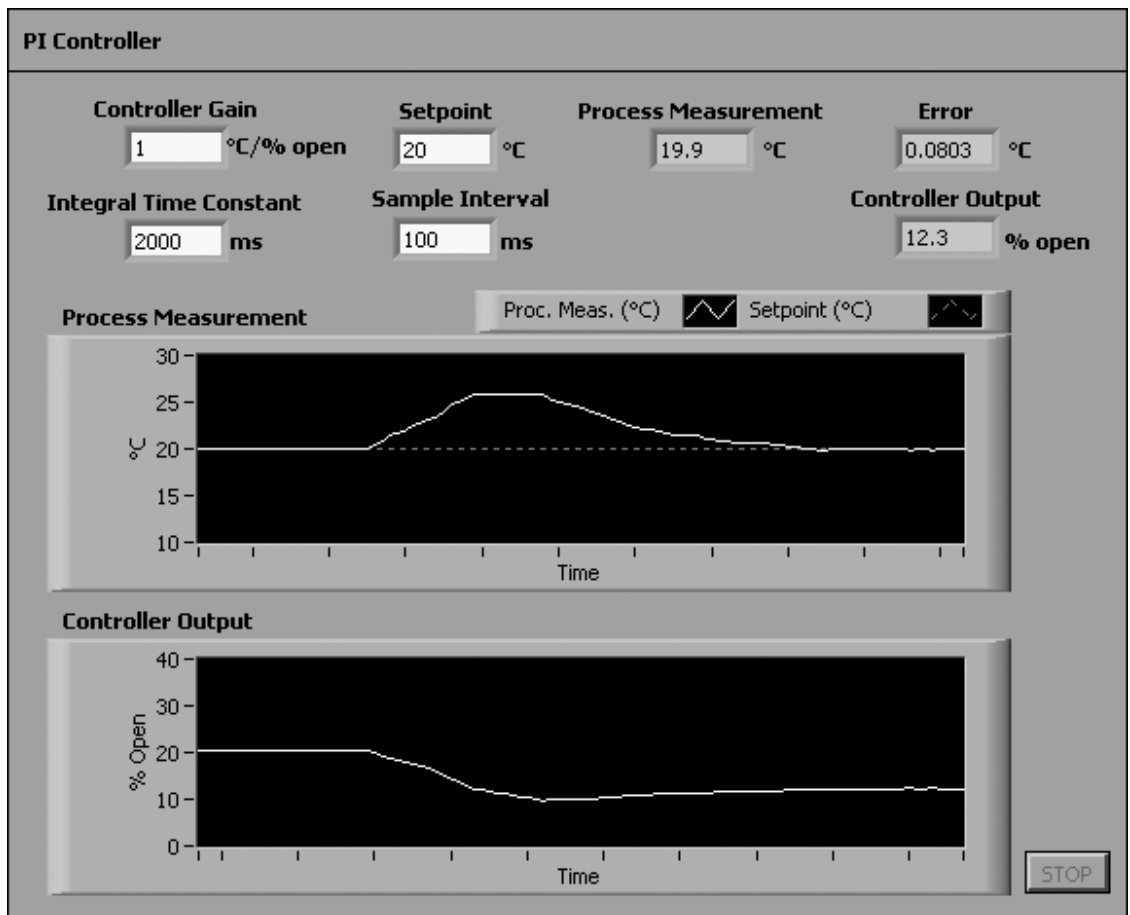

Figure 1.1
As an example, the LabVIEW program (front panel) shown in Figure 1.1 reads a process measurement (a temperature value) from a piece of equipment, compares the measured process temperature with the desired temperature (called a *setpoint*), and outputs a signal to a controller to try to control the temperature at the setpoint value. You can see in Figure 1.1 that when the temperature went above setpoint, the controller output decreased. This causes a valve on a heat source to close (partially) to bring the temperature back to setpoint.
- *Front Panel*—Displays the *controls* (knobs, buttons, graphs, etc.) and represents the graphical interface for the VI. An example of a VI front panel is shown in Figure 1.1.